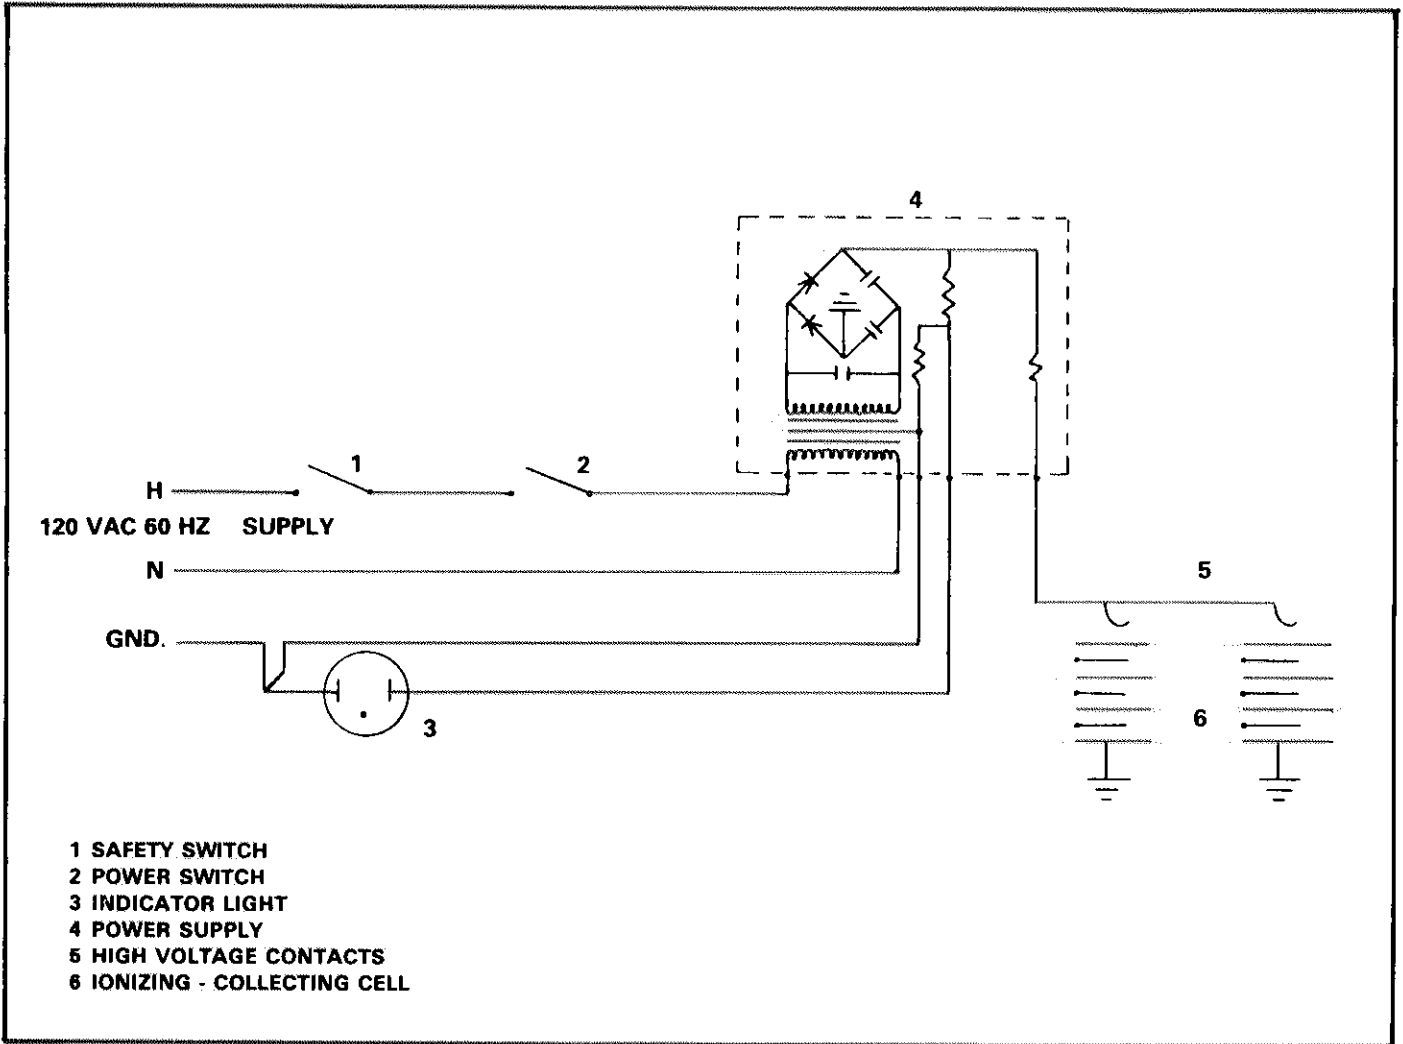

FIGURE 2
**F — The Electrical Circuit (Figure 2)**